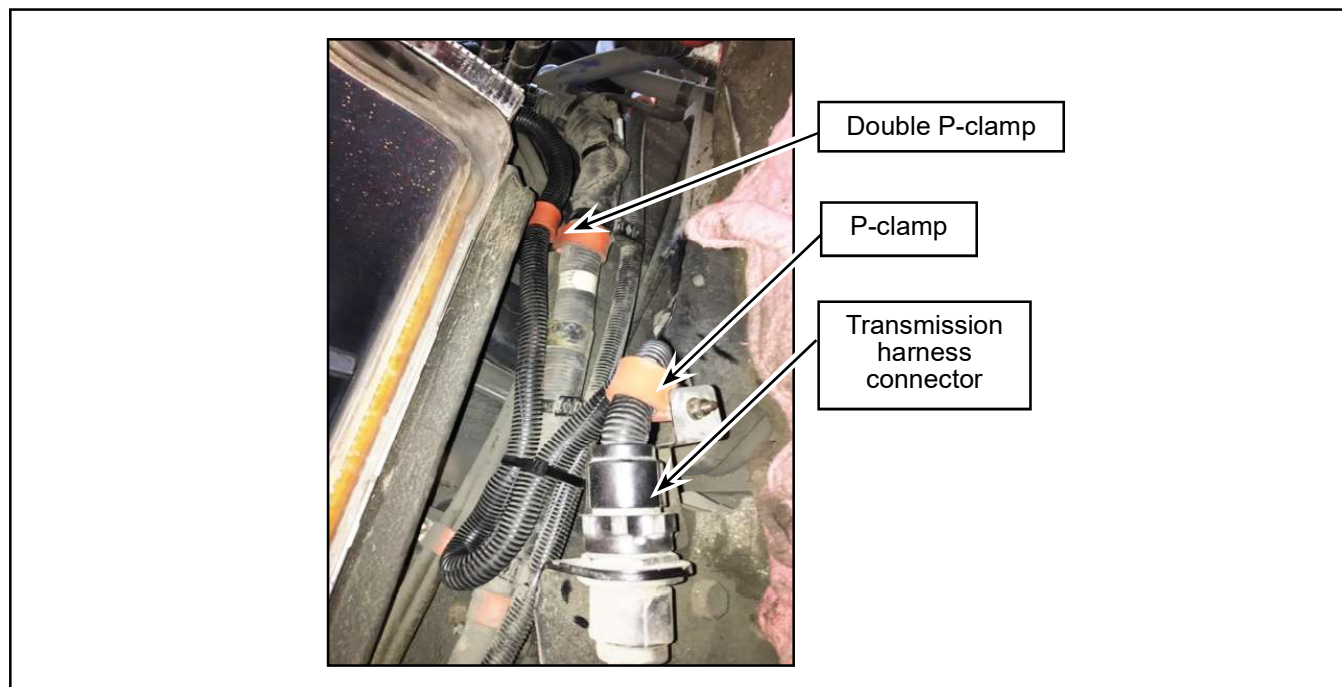

Figure 2 - Double P-clamp, P-Clamp and Transmission Harness Connector Locations
- 1.5. Remove the P-clamp near the transmission connector (the P-clamp can be missing and will need to be reinstalled later) and disconnect the connector. Do not remove the double P-clamp (see Figure 2).